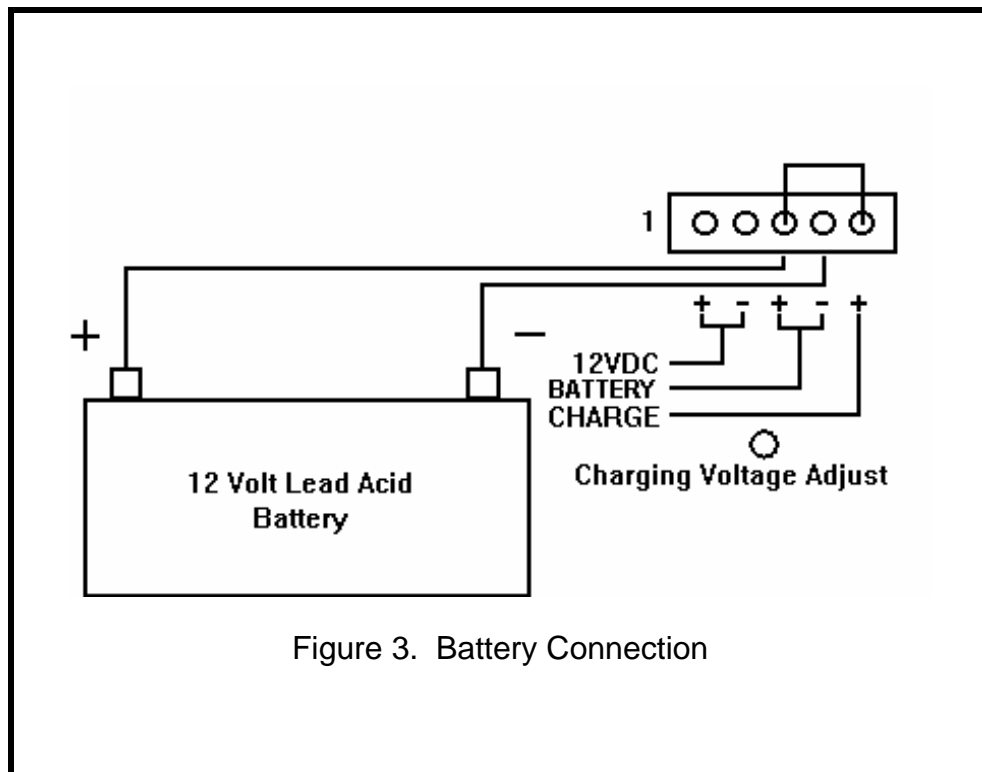

Figure 3. Battery Connection
**Step Two - Connect a Battery and Enable Charging Circuit** of the dialer to insure uninterrupted operation in case of an AC power failure. Refer to Figure 3.